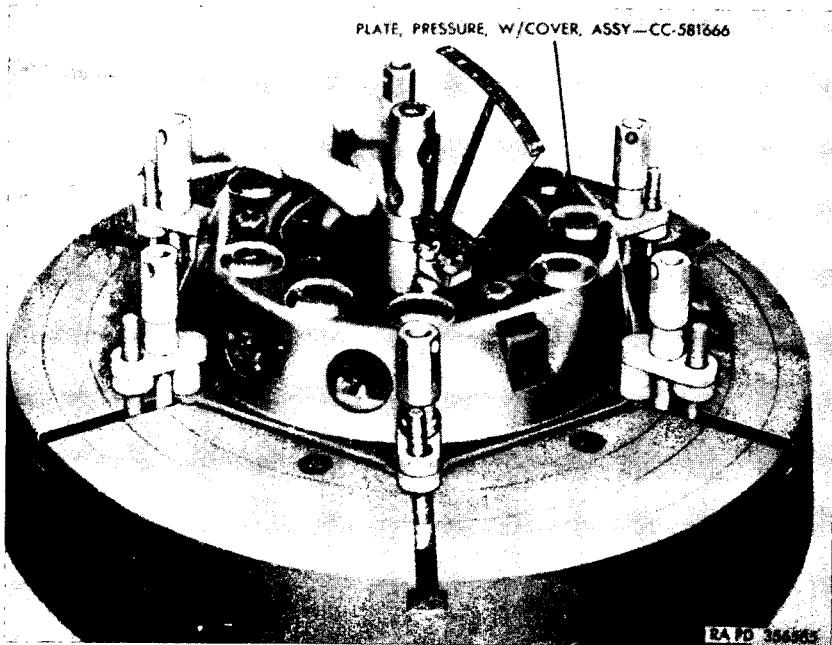

Figure 102. Checking release lever adjustment with clutch rebuilder 41-C-2480
- (3) *Compressing cover on pressure plate.* Compress the cover on the pressure plate with clutch rebuilder 41-C-2480. Make sure the driving lugs of the pressure plate are lined up in the holes in the cover and that the compression springs are not cocked or off their seat while compressing the pressure plate assembly.
- (4) *Installing eye bolt nuts.* Continue to compress the assembly until the cover flange rests against the rebuilder base. Screw the eye bolt nuts, large end toward the cover, on the eye bolts until the top of the nuts and end of eye bolts are flush. Slowly release the pressure on the compression springs.
- (5) *Checking and adjusting release lever (fig. 102).* Adjust the release levers for proper position whenever the clutch is disassembled or whenever clutch parts are replaced or repaired. Install the rebuilder indicator gage and measure the position of the levers. Make lever adjustments carefully so that all levers will be adjusted evenly. Adjust the lever up or down by turning the eye bolt nut until the proper setting is obtained. Then, move the rebuilder gage to the other two release levers and adjust in the same manner. Stake the adjusting nuts to lock them in place.